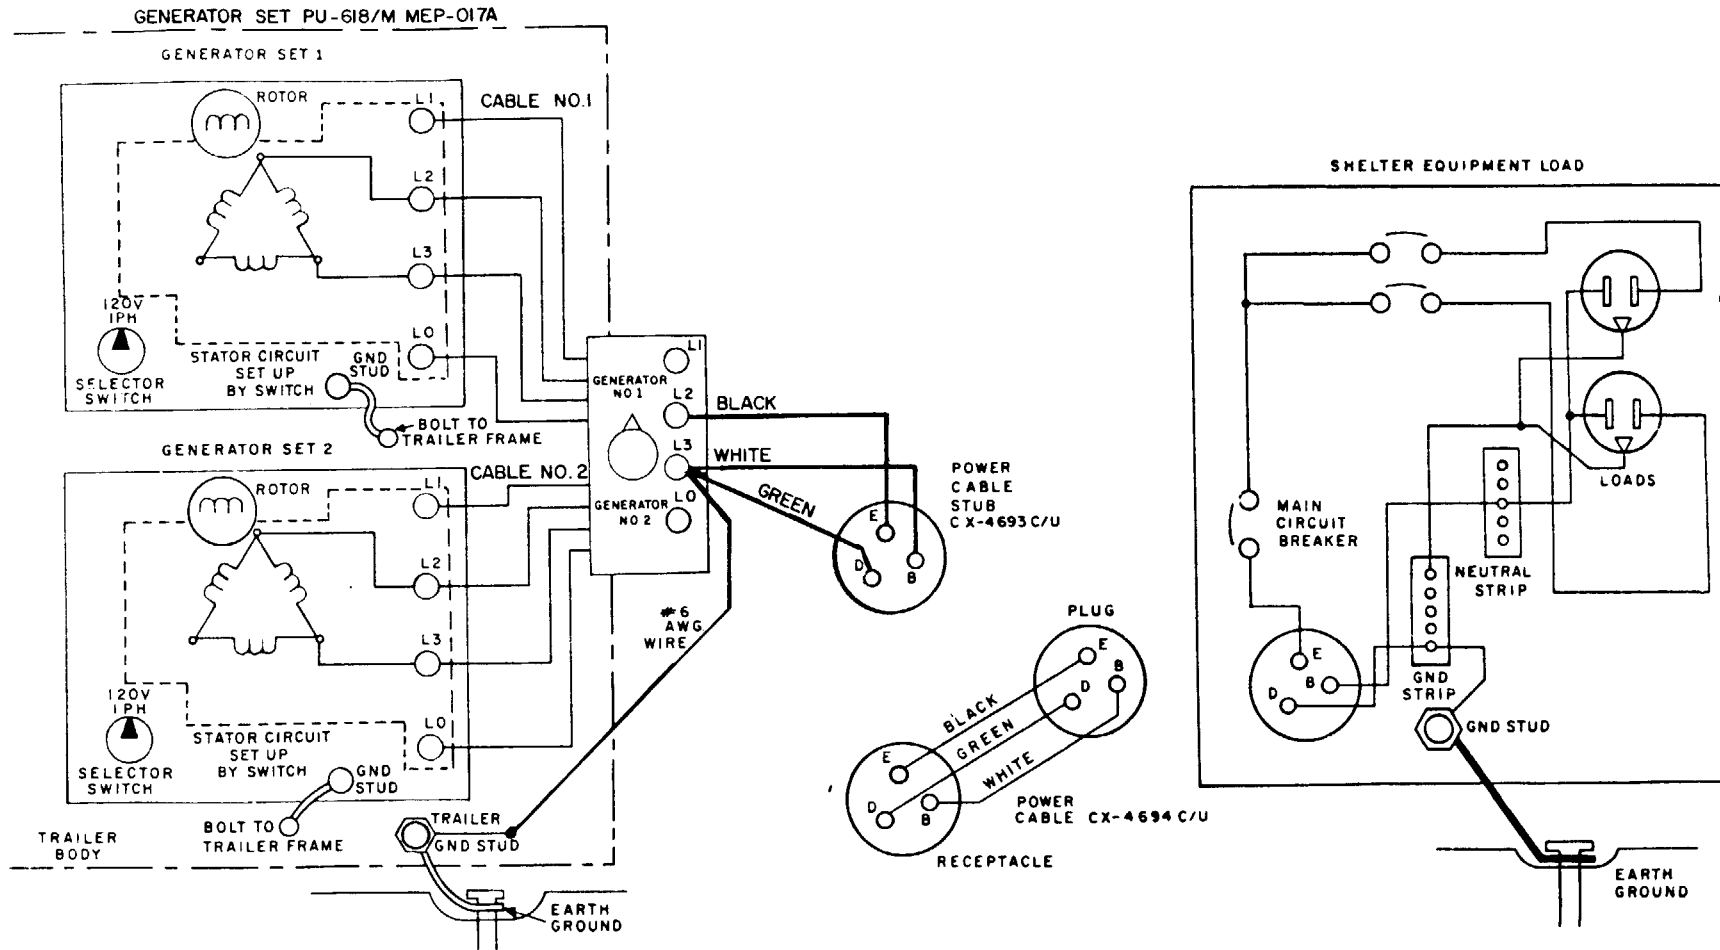

Figure 15.4 Generator Set PU-618M Hookup: Two Generator Units, 5 kw, 115 volts, 60 Hz, Single-Phase Ac (CX-4694C/U power Cable with CX-4693C/U Stub)
- a. *Connection to Generator Set (fig. 15.4).*
(3) Remove the covers from the connectors of Power Cable Stub CX-4693C/U and Power Cable CX-4694C/U. Connect the power cable stub to the power cable.
(4) If Generator Set PU-618/M (fig. 15.4) includes an output connector that is compatible with the connector on the power cable assembly, connect the power cable assembly to the generator set; otherwise refer to the generator set technical manual and TB 430125 for proper power connections on the generator set.
(5) Connect the black lead at the other end of Power Cable Stub CX-4693C/U to terminal L2 on the transfer switch (fig. 15.4). Connect the white and green leads of the power cable stub to terminal L3 on the transfer switch (fig. 15.4).
(6) Connect a No. 6 AWG (jumper) wire between terminal L3 on the transfer switch and the trailer gnd stud on the trailer frame (fig. 15.4). Connect another No. 6 AWG (jumper) wire between the trailer gnd stud and the ground rod (earth ground) as shown in figure 15.4.
Add new illustration, figure 15.4, to support text of paragraph 28.